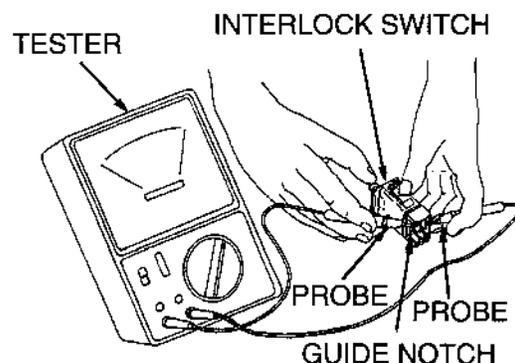

Figure C-3. Interlock Switch Terminals - Position A.
C-4.2 Testing the Interlock Switch. Refer to figures C-3 and C-4. Using an ohmmeter, check the switch terminals for proper continuity.
1. Touch the tester probes to the switch terminals in Position A as shown in Figure C-3.